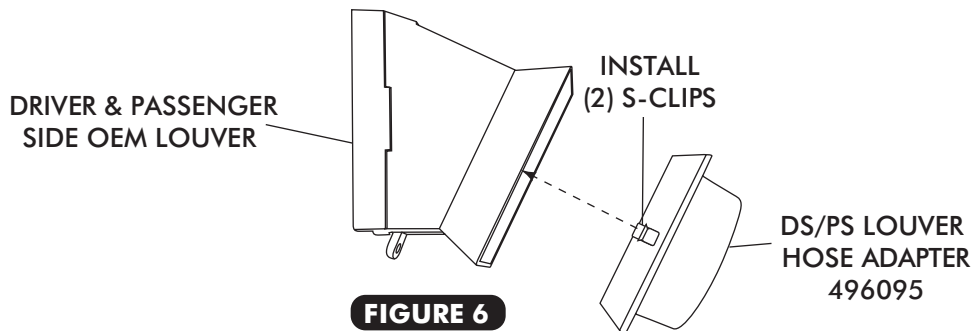

FIGURE 6
- INSTALL S-CLIPS ON HOSE ADAPTERS AS SHOWN IN FIGURE 6, BELOW.
- INSTALL ADAPTER ON DRIVER AND PASSENGER SIDE OEM LOUVERS. SEE FIGURE 6, BELOW.